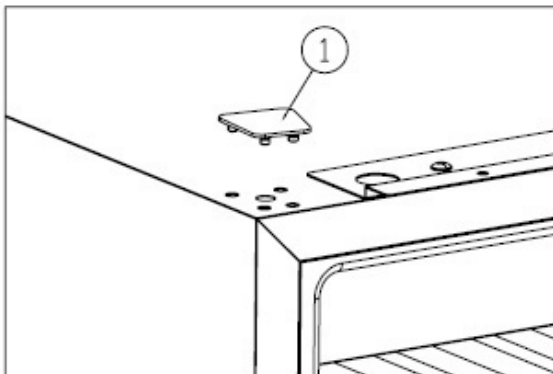

Figure 3
- ✧ Remove the coverplate of the mounting holes on the left (1). [Figure 3]